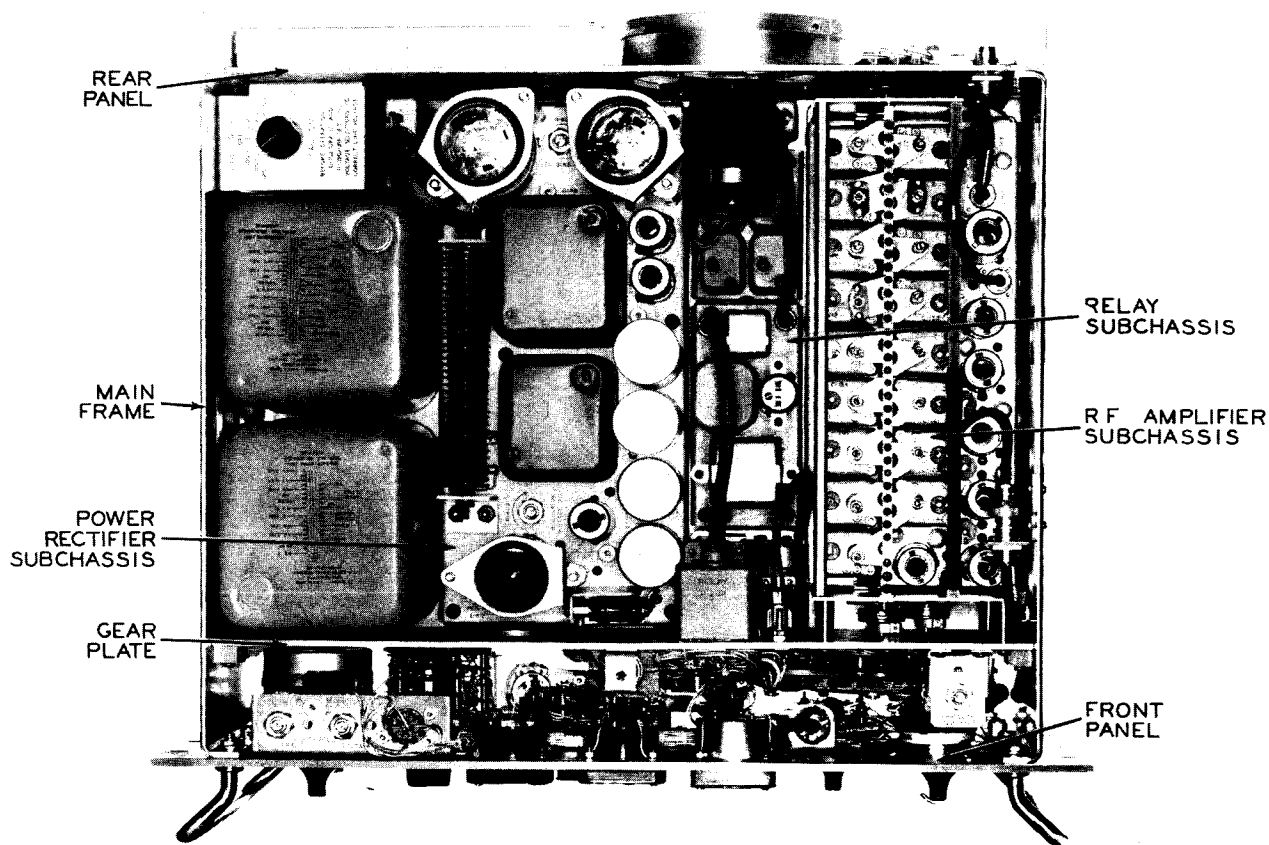
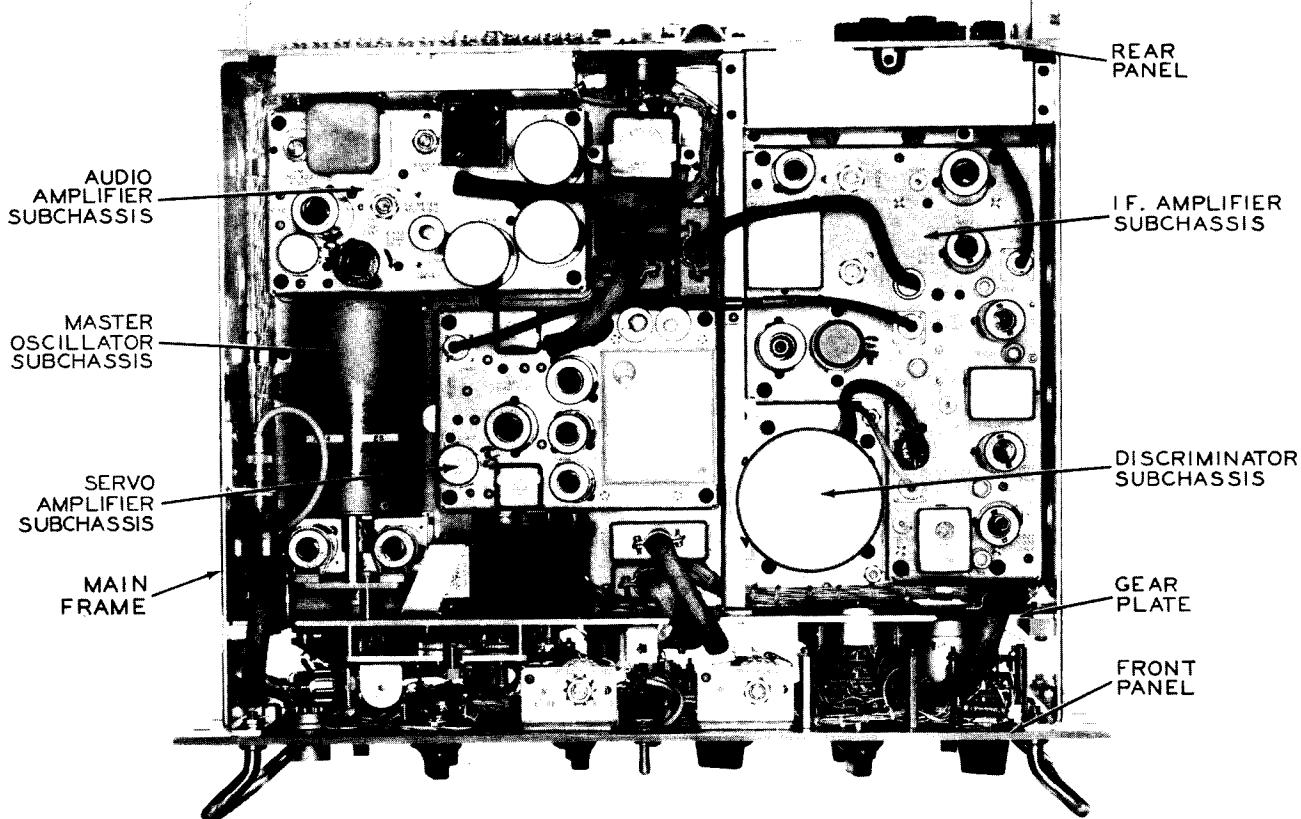

Figure 9. Radio Frequency Oscillator O-152/URA-13 showing top deck location of subchassis.
Figure 10. Radio Frequency Oscillator 0-152/URA-13,
d. Radio Frequency Oscillator O-152/URA-13 is assembled from a number of subassemblies including the main frame, gear plate and eight subchassis. The rf amplifier subchassis, relay subchassis and power rectifier subchassis are mounted on the upper deck of the main frame (fig. 9). The if. amplifier subchassis, discriminator subchassis, servo amplifier subchassis, audio amplifier subchassis and variable frequency oscillator (vfo) subchassis are mounted on the lower deck of the main frame (fig. 10). The subchassis are connected to the main frame and to each other by cables. Mounted directly behind the front panel is the gear plate on which is mounted the gear train of the automatic tuning system along with various electrical components.